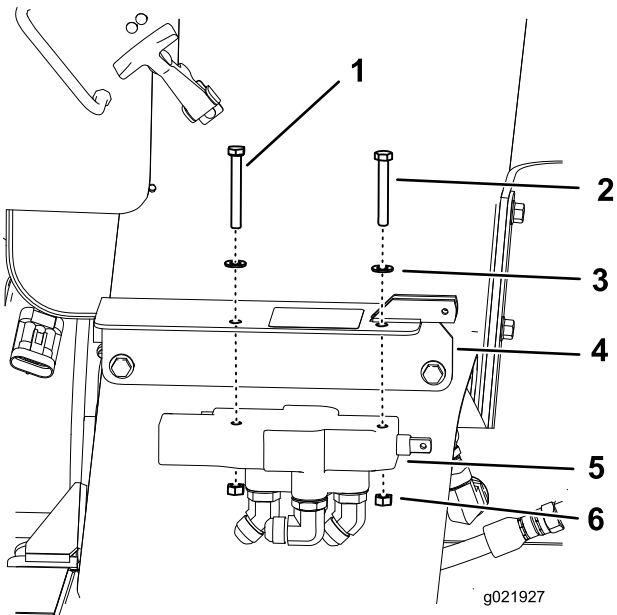

Figure 9
4. Install the control valve onto the bracket and secure with the 2 bolts (5/16 x 2-1/4 inch and 5/16 x 2-1/2 inch), the 2 flat washers (0.344 inch) and the 2 locknuts (5/16 inch) (Figure 9); torque to 20 to 25 N-m (175 to 225 in-lb).